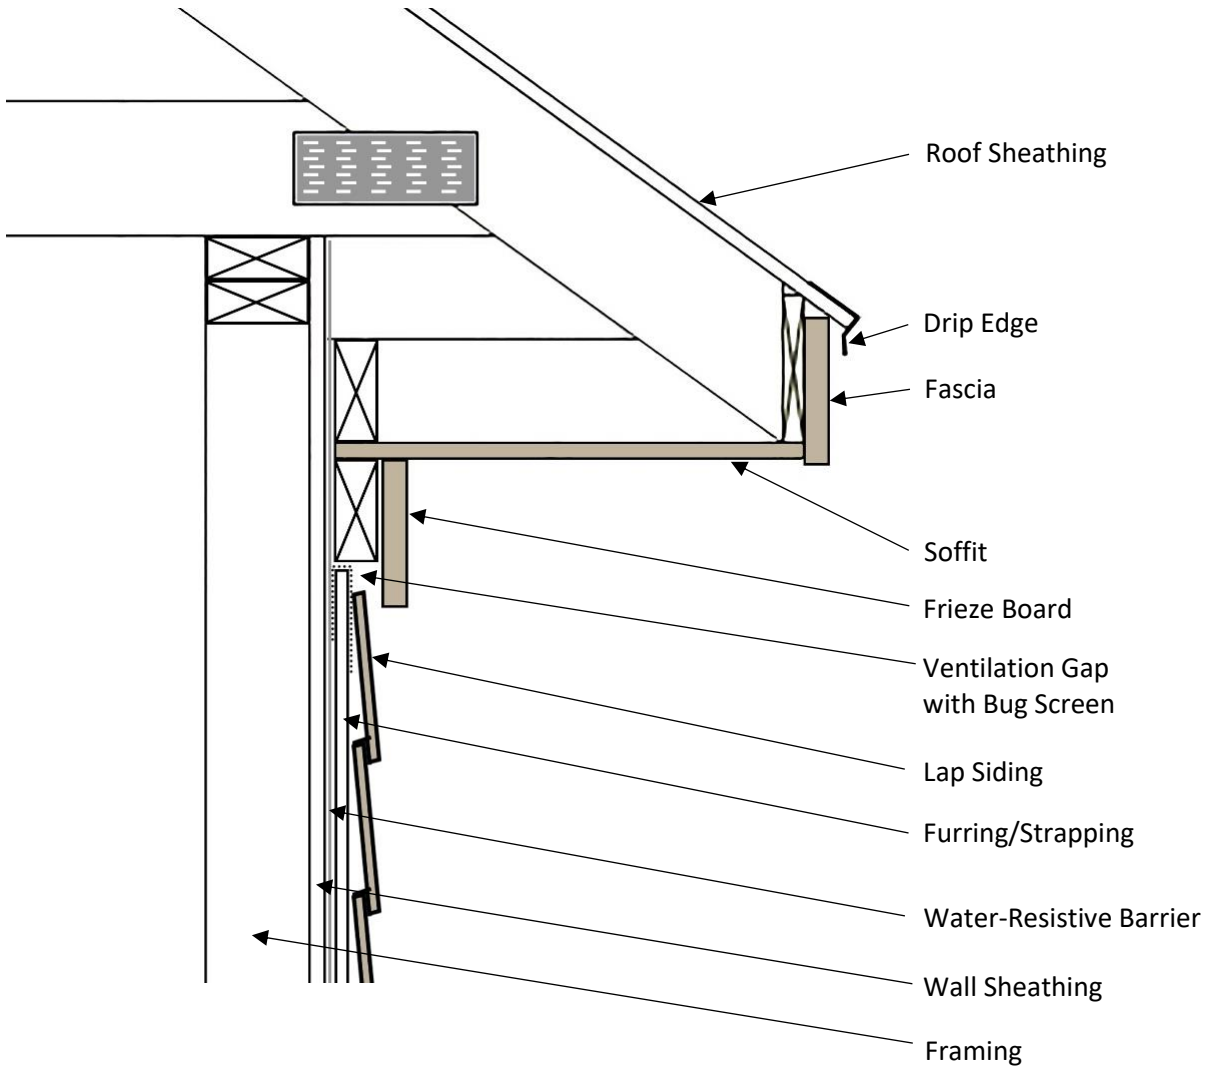

Figure 1
- The opening at the top of the exterior wall should be vented to the outside, except for a bug screen (see Figure 1).
- Blocking behind the frieze board is added to maintain adequate air space between the frieze board and the face of the cladding to allow proper ventilation (see Figure 1).